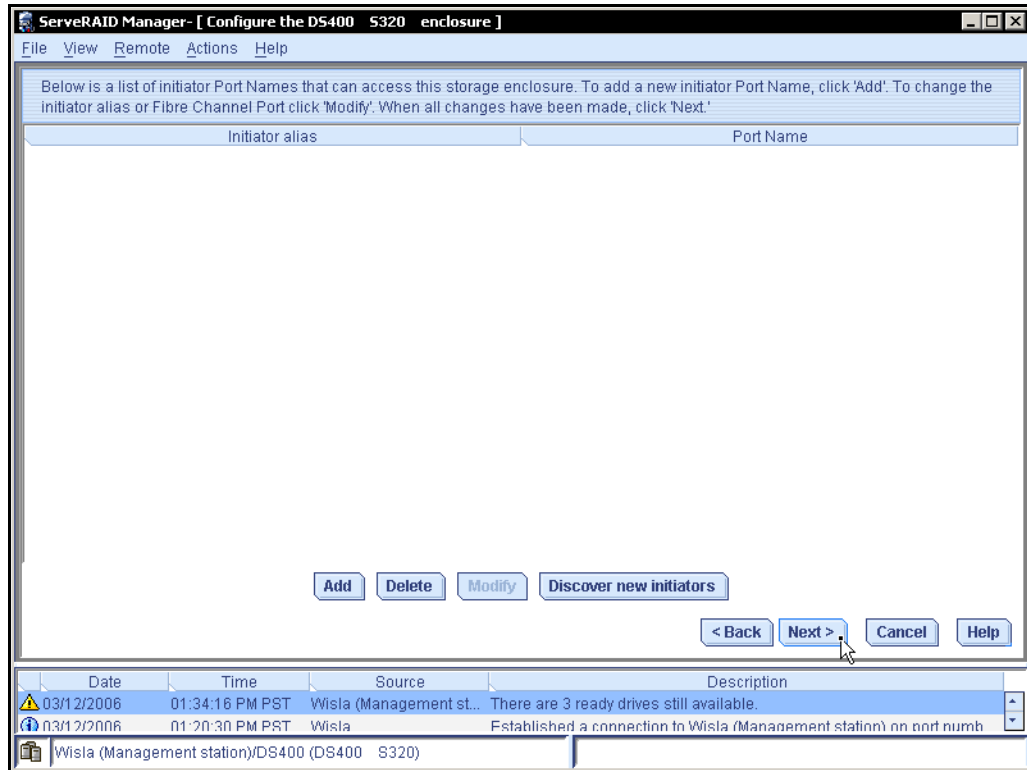

Figure 42 Initiator port configuration
6. At this point initiator port names can be configured as shown in Figure 42.